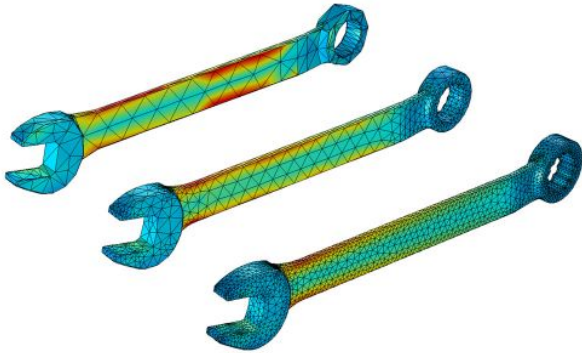

Figure 1: Finite Element Modelling of a Wrench under a Test Load Scenario [2]
**Finite Element Method (FEM)** is a powerful numerical technique for solving equations over a discrete domain. The simulated system is split into small regions called **elements**, connected by **nodes** which represent discrete points in the domain, together making up a **mesh**. Elements are evaluated using **basis functions** which approximate the solution within each element based on node values [1]. This approach allows for practical solutions to problems that may be difficult or impossible to solve analytically. In addition to this, the size and shape of elements can be adjusted to improve accuracy or reduce computational cost, making FEM a powerful and flexible tool for modelling (Figure 1).